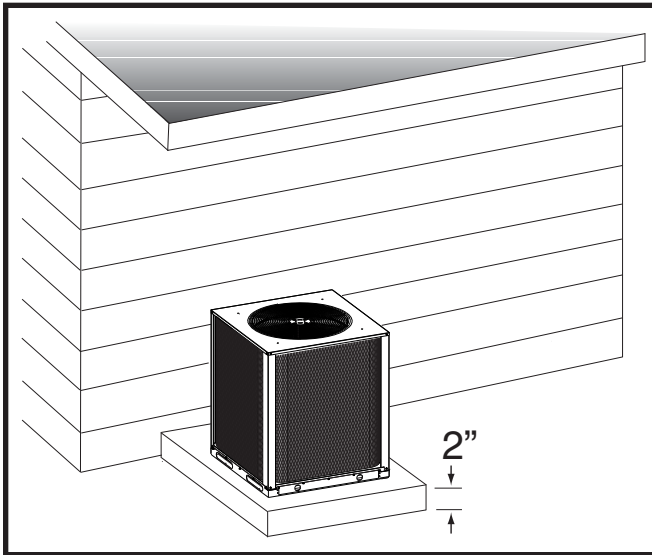

Figure 3. Ground Level Installation
- A suitable mounting pad (Figure 3) must be provided and be separate from the building foundation. The pad must be level and strong enough to support the unit's weight. The slab height must be a minimum of 2" (5 cm) above grade and with adequate drainage.